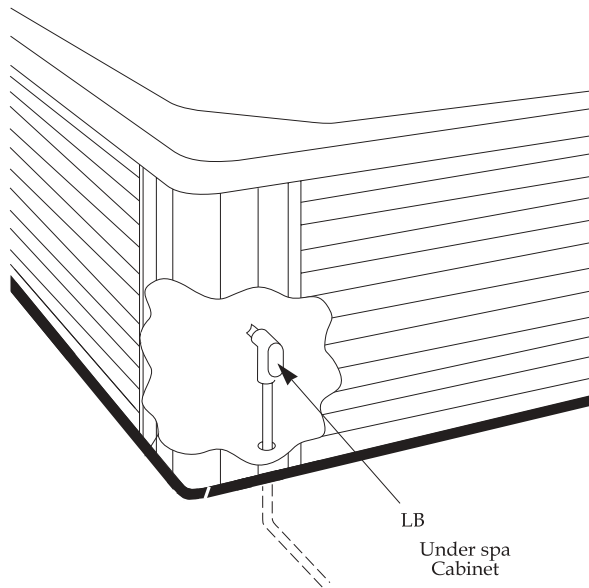

Figure 1
Under the spa cabinet- See figure 1 on pg. 11
- T-valves must be open when spa is in use. See Fig. 1.